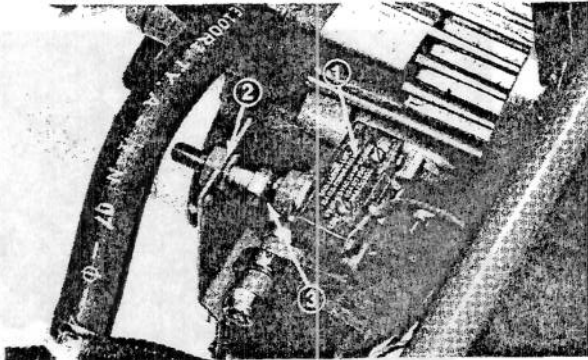

Figure 84
10. To adjust neutral switch, loosen jam nut, turn adjusting screw toward switch until continuity is attained, then turn adjusting screw one-half turn further and tighten jam nut (Fig. 84).